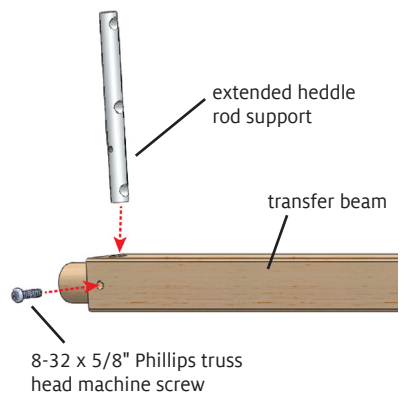

FIGURE 8: INSTALL EXTENDED HEDDLE ROD SUPPORT IN TRANSFER BEAM
8. Identify the transfer beam, a square beam with two rounded ends and a large hole at one end. Insert one extended heddle rod support through the large hole; secure with an 8-32 x 5/8" Phillips truss head machine screw. Turn the transfer beam so the longer end of the extended heddle rod support is at the top, as shown in Figure 8.